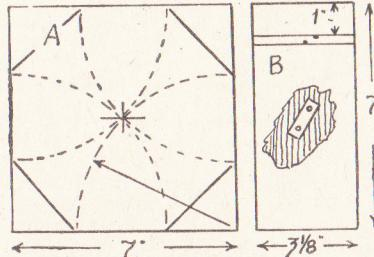

Fig. 1—Dimensions of the base and staves
The shape is octagonal, as shown in the illustration, and this can be marked out direct to the wood. For the lid, and base, cut two squares of the fretwood, 7ins. each way, and centre with diagonal lines. With a radius of corner to centre, as shown at (A) in Fig. 1, strike the arcs, and draw lines, as shown in the diagram, where these arcs contact the sides of the square. One octagon being cut, the edges should be lightly glasspapered smooth, then it can be laid upon the second square and a pencil run round it, to mark its shape and save setting out the octagon again.